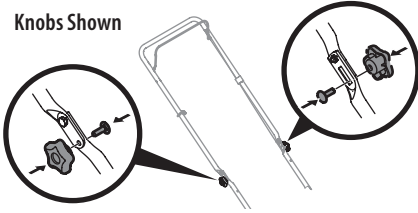

Figure 5
- Reattach knobs or wing nuts and carriage bolts removed in STEP 2 into lower holes of the handle (Figure 5).